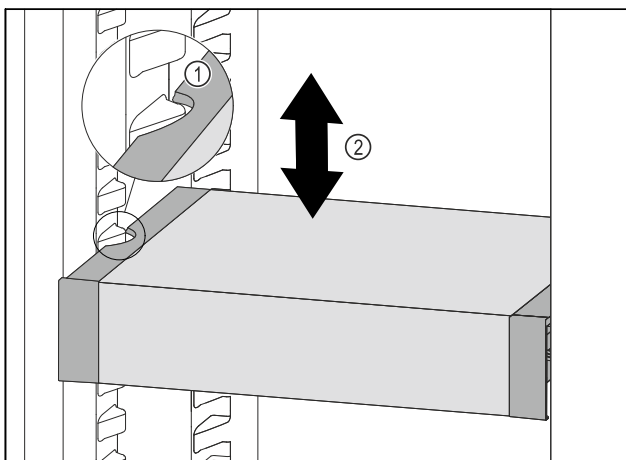

Fig. 106
- Pull VarioSafe forwards until the recesses in the side of the VarioSafe are at the level of the support rib in the refrigerator compartment. Fig. 106 (1)
- Move VarioSafe up or down in the refrigerator compartment until the desired height is reached. Fig. 106 (2)